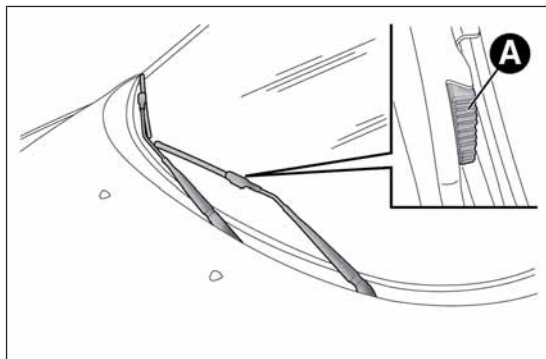

fig. 165
- raise the wiper arm, press tab A fig. 165 of the attachment spring and remove the blade from the arm;